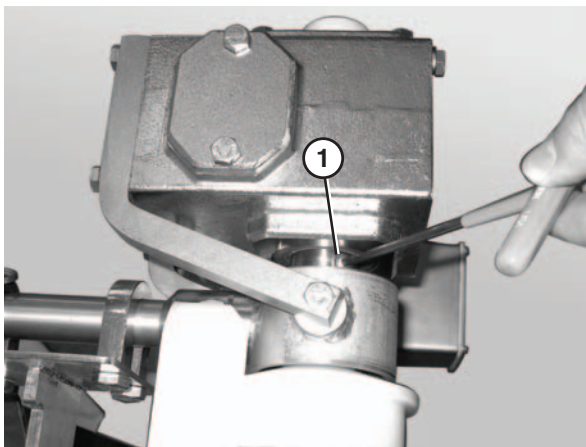

Figure 59
1. Loosen the button head screws (**Figure 59, item 1**) that connect the gearmotor to the drive spindle.